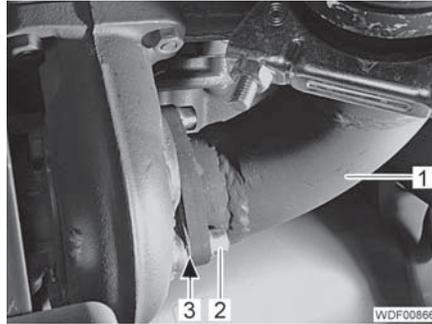

Fig. 4 Flue attachment
- Unscrew the 3 screws (Fig. 4,2).
- Carefully pull off the flue (Fig. 4,1).
- Loosely fix the seal (Fig. 4,3) or intermediate washer with seals to the engine using 3 screws if necessary, so that the parts are not lost.